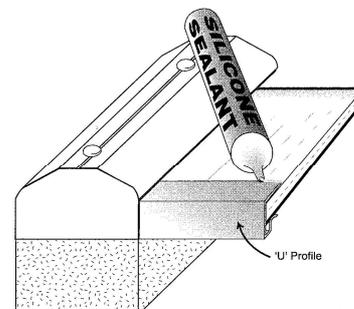

Fig.9
**Step 11:** Measure and accurately cut the aluminium U profile (ref. 252) to the exact length and fix over the anti-dust tape at the eaves end of the sheet between the end plates. A small bead of silicone sealant can be applied to the upper side of the sheet along the line where it meets the U profile and smooth to give a neat finish (Fig.9). Only use silicone sealant that is compatible with polycarbonate.